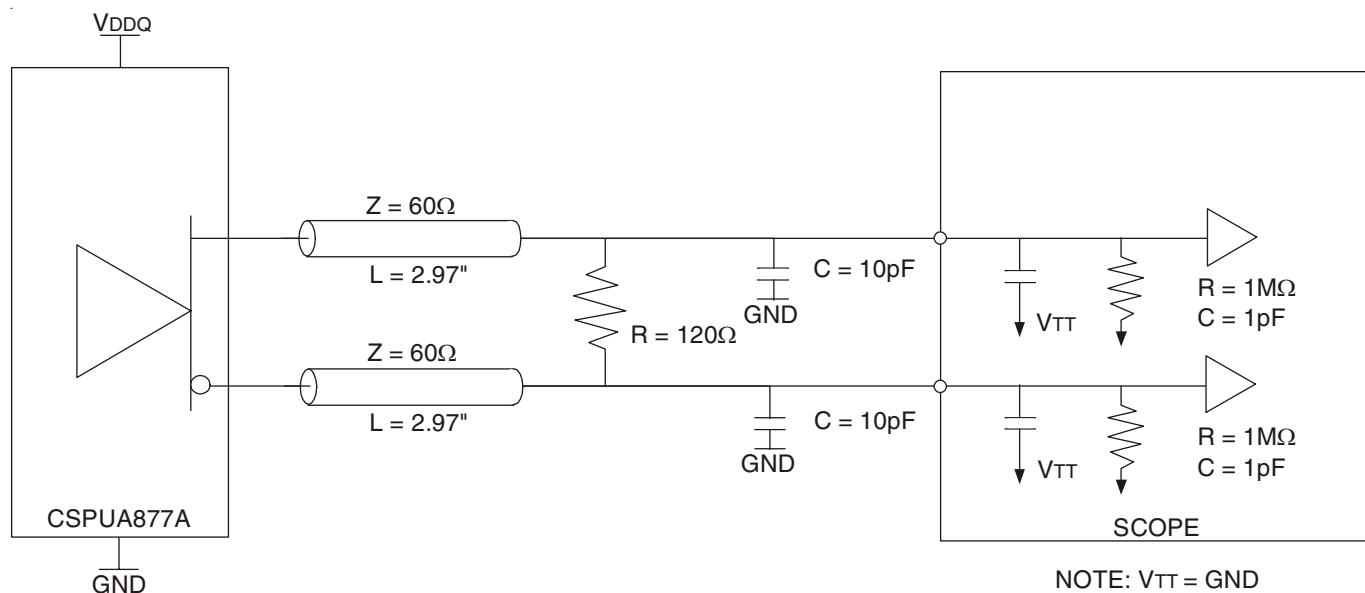

Figure 1: Output Load Test Circuit 1
- There are two different terminations that are used with the above AC tests. The output load shown in figure 1 is used to measure the input and output differential pair cross-voltage only. The output load shown in figure 2 is used to measure all other tests, including input and output slew rates. For consistency, use 50 Ω equal length cables with SMA connectors on the test board.
- In the frequency range of 271 - 410MHz, the min and max values for t_{JIT}(PER) and t_{(ϕ)DYN}, and the max value for tsk(O), must not exceed the corresponding min and max values of the 160 - 270MHz range. Also, the sum of the specified values for | t_{JIT}(PER) |, | t_{(ϕ)DYN} |, and tsk(O) must meet the requirement for Σ t(SU), and the sum of the specified values for | t_{(ϕ)DYN} | and tsk(O) must meet the requirement for Σ t(H).